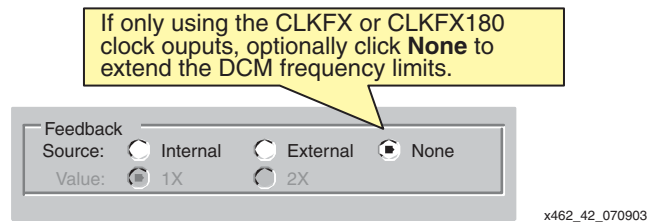

Figure 42: Select No Feedback (None) to Extend Frequency Synthesizer Frequency Limits
- Disable DCM feedback by selecting **None**, as shown in Figure 42. Without feedback, the CLKFX and CLKFX180 frequency range is extended to both lower and higher frequencies.